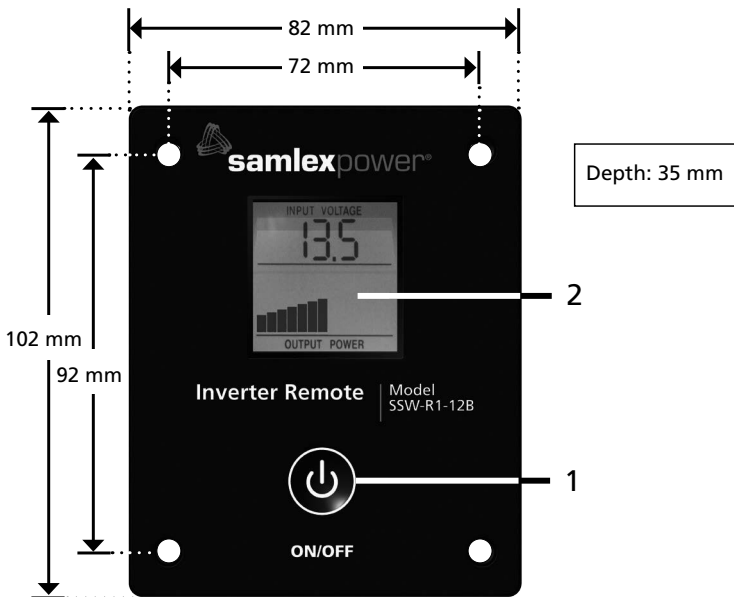

Fig. 2.1 Layout
The layout is given at Fig 2.1 below.
If the ON/OFF Switch on the Inverter is left in ON position when using the Remote Control, the following will be observed on pressing the ON/OFF Button on the Remote Control (1 in Fig 2.1) for switching ON and Switching OFF the Inverter:
- Press ON/OFF Button (1 in Fig 2.1) to switch ON the Inverter: The Remote Control will display the status of operation of the Inverter
- Press ON/OFF Button (1 in Fig 2.1) to Switch OFF the Inverter: The LCD Display (2 in Fig 2.1) will switch OFF. However, the Inverter will not switch OFF and the batteries will continue to drain due to the following energy consumption: